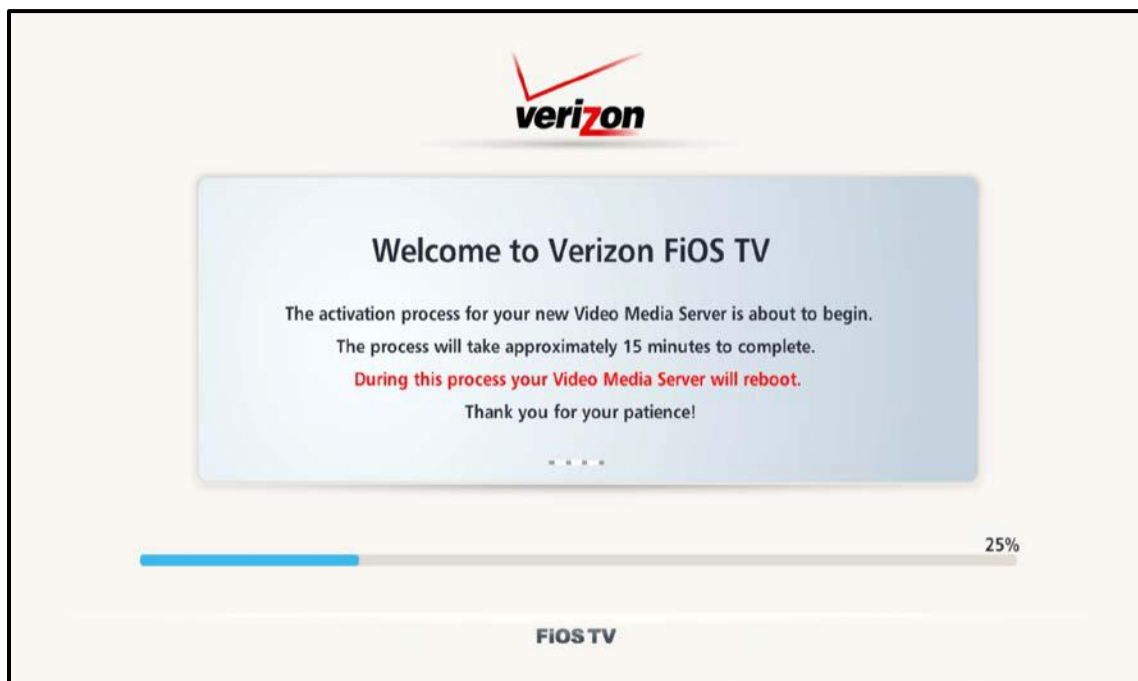

Figure 18 – Welcome-Start Activation Screen
3. The Verizon Welcome-Start Activation screen displays (see Figure 18) and the VMS1100 automatically starts performing a series of self-tests.